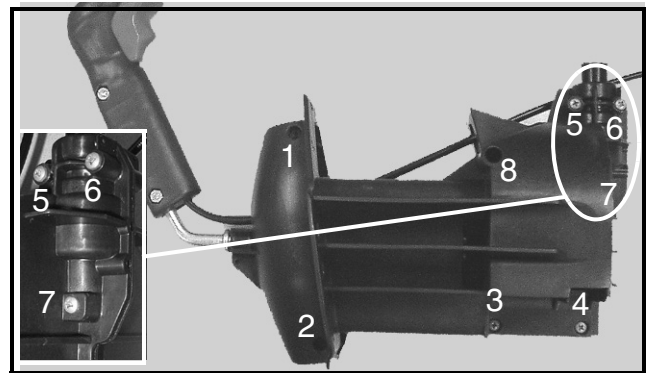

FIGURE 7
10. Turn the chute control assembly over onto its' LH housing side. Using a No. 2 Phillips screwdriver remove and discard the eight hi-lo screws securing the two housing halves of the chute control assembly. See Figure 7.
NOTE: Ensure that the joystick is oriented as shown in Figure 7.
23. Secure the two housings together with the eight new #8-18 Hi-Lo Screws, Item 3. Refer to Figure 7.